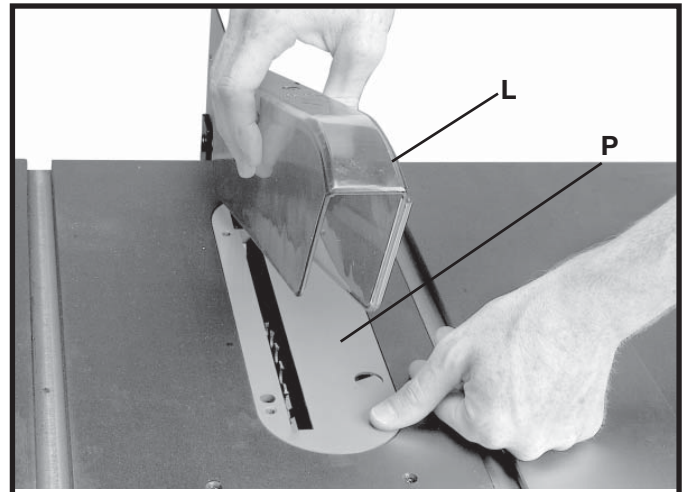

Fig. 52
11. Lower saw blade and install table insert (P) Fig. 52, in the saw table as shown.